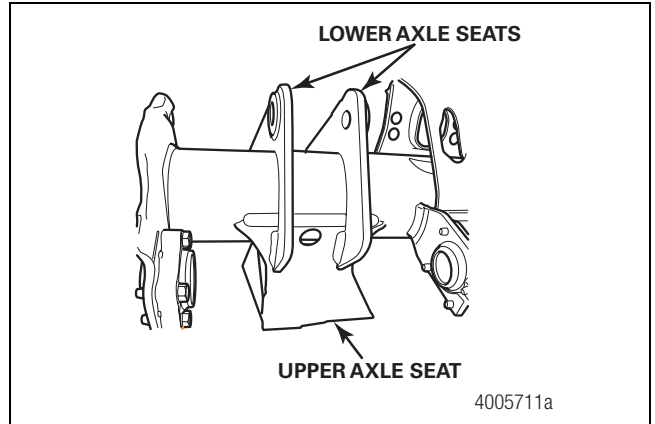
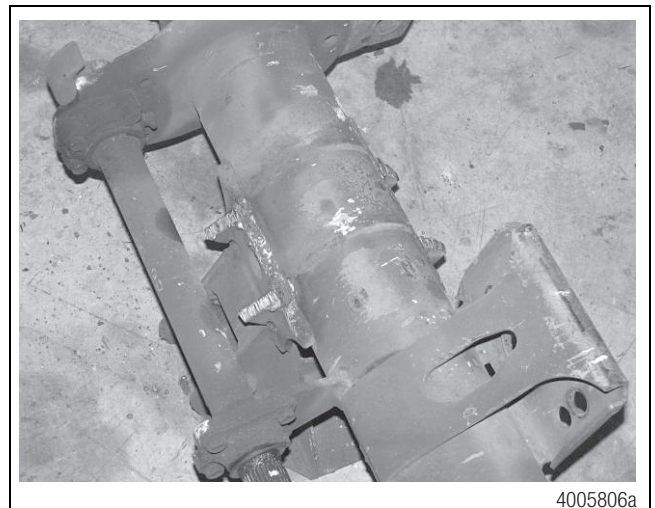

Figure 9
Figure 10
2. Use an air-arc or torch to remove the lower axle seats. Note that the lower axle seats will be facing up and are welded to the upper axle seats. Figure 9 and Figure 10.